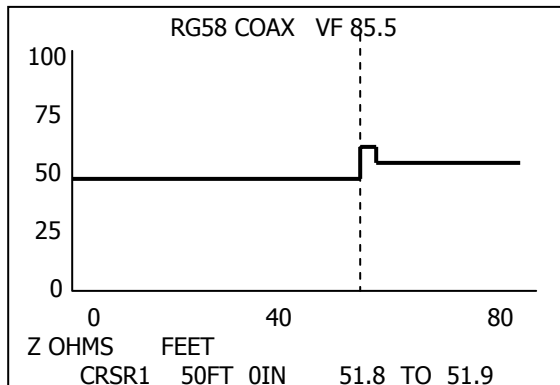

Figure 2
- Corrosion on the connection surfaces, on either the center conductor or the shield of the connectors, create a resistive fault that will raise the impedance going through the connection. The amount of resistance is random depending on the amount of poor connection surface, but the resistance will raise the impedance trace on the far side of the connection as shown in Figure 2.
If the coax cable has been directly spliced without the use of connectors and a poor connection results from a cold solder joint, dirty connection or corrosion, it will appear as a resistive fault. It will also raise the impedance trace on the far side of the splice and appear similar to the trace shown in figure 2.